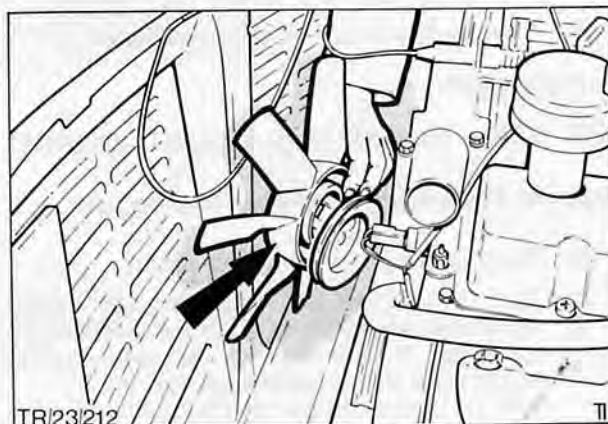

Fig. 41. Fan blade and pulley removed
7. Remove four bolts and detach fan blades, pulley and spacer, Fig. 41.